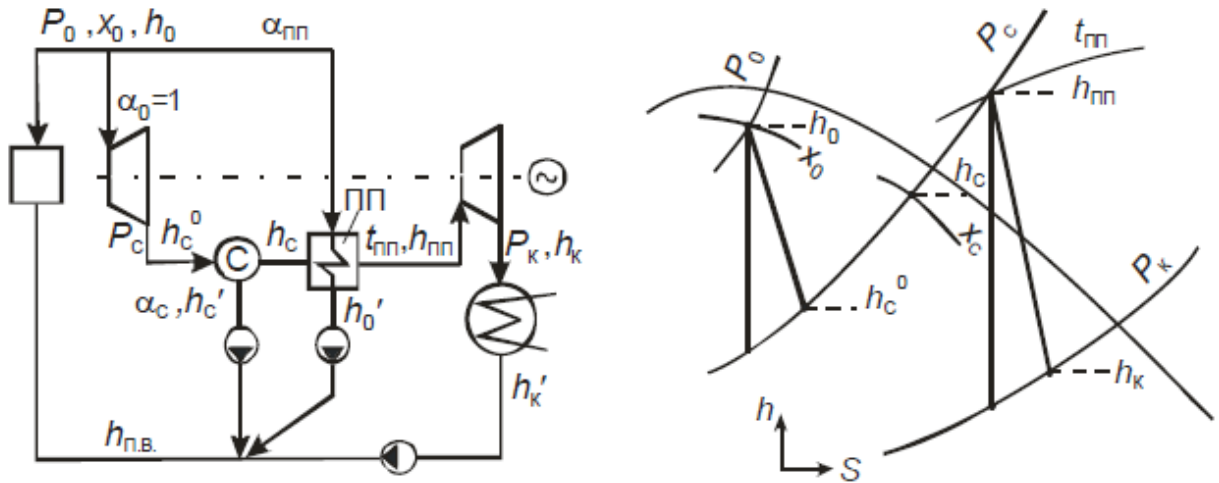

Fig.3 – Scheme and process of expansion in the turbine for the PTU with separation and superheating by steam.
12) The scheme of the steam turbine unit with steam superheating for the 3rd task is shown in Fig. 3.